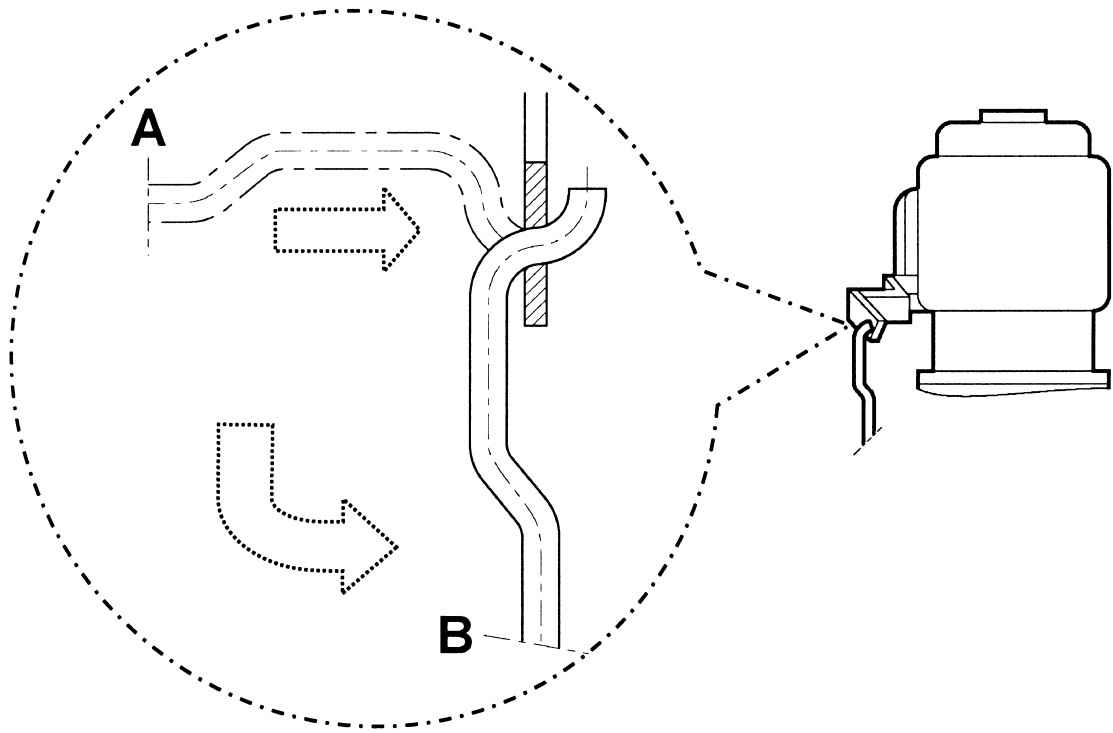

Fig. 3
- Fixing the float switch connecting rod (Fig. 3):
- Place the indented end of the float rod into the hole provided on the switching lever horizontally (A) then move down to a vertical position (B).